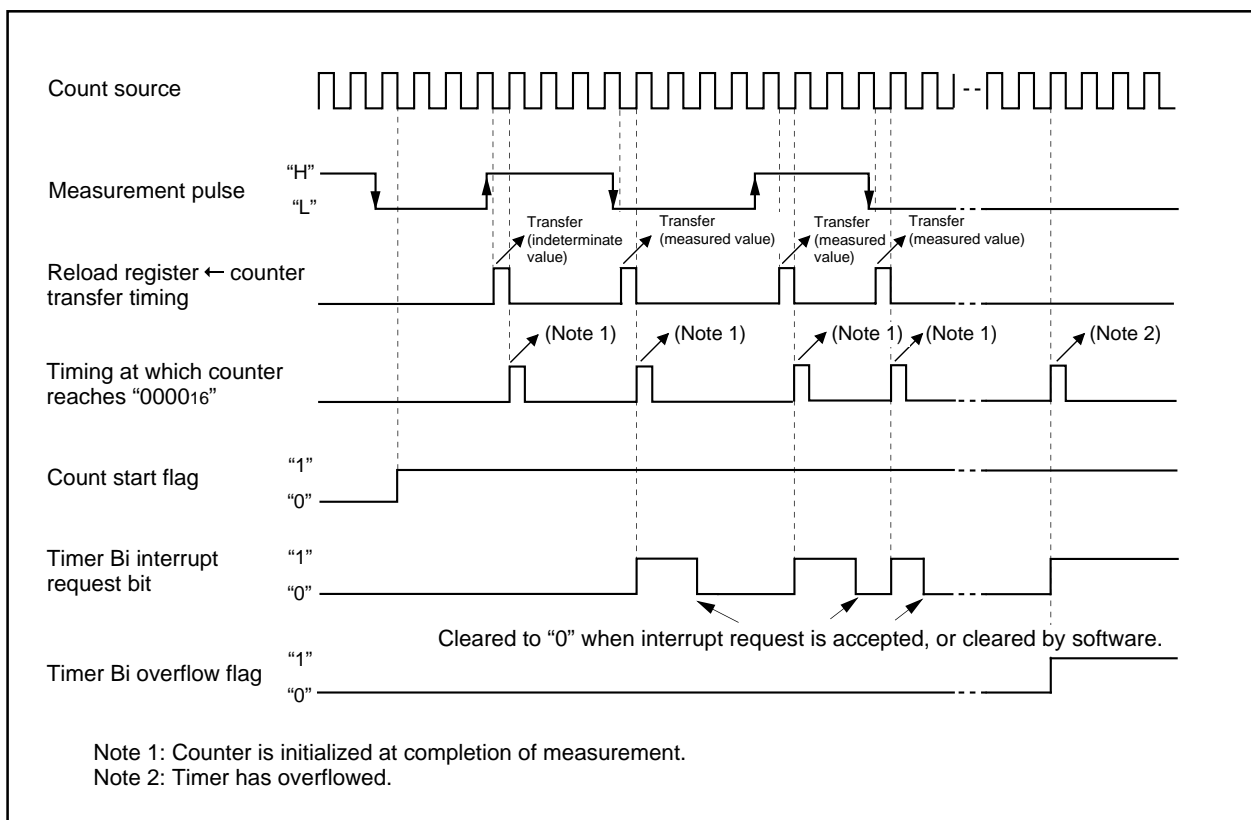

Figure 1.14.21. Operation timing when measuring a pulse width
1.14.20 shows the operation timing when measuring a pulse period. Figure 1.14.21 shows the operation